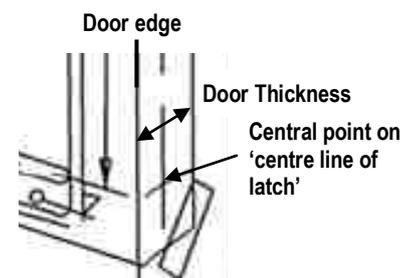

Figure 2
- Draw a centre line of latch down the edge of the door. (Figure 2)